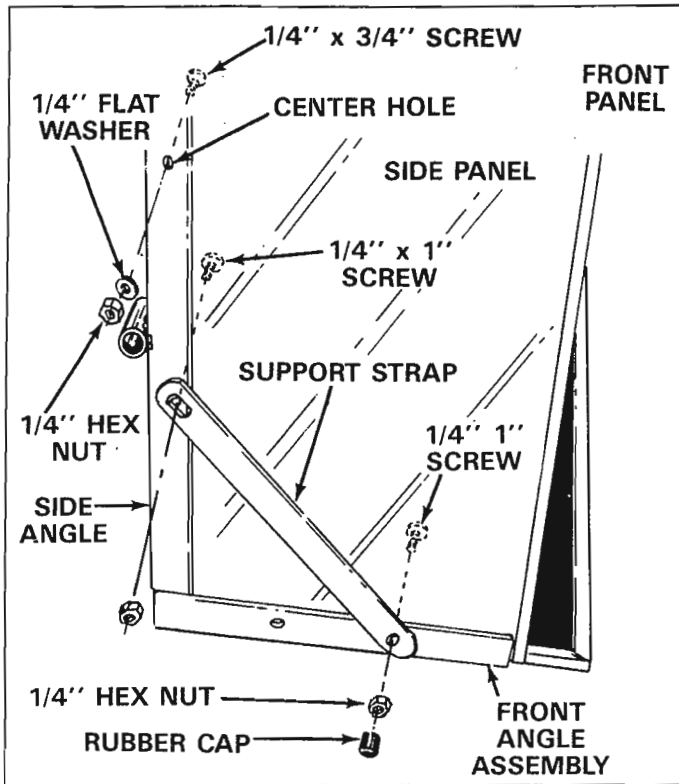

FIGURE 6
- Place one side panel in position, against side angle and down on top of front panel. Start one  $1/4'' \times 3/4''$  truss head screw through the center hole in side panel and side angle. Secure with hex nut and flat washer. See figure 6. **Make only finger tight at this time.**
- Start one  $1/4'' \times 1''$  truss head screw through front hole on side panel and side angle. Start another  $1/4'' \times 1''$  truss head screw through top hole on side panel and front angle assembly, next place support strap over these two screws, secure with hex nuts and cover threads of top screw with a rubber cap. See figure 6. **Make only finger tight at this time.**